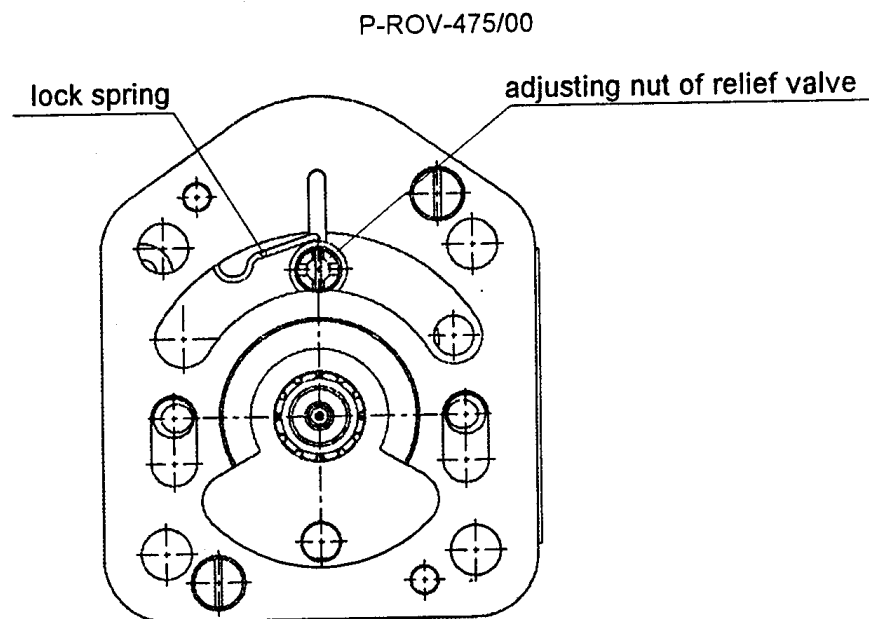

Fig. 7
5.6.4 Adjusting relief valve pressure (see Fig. 7)